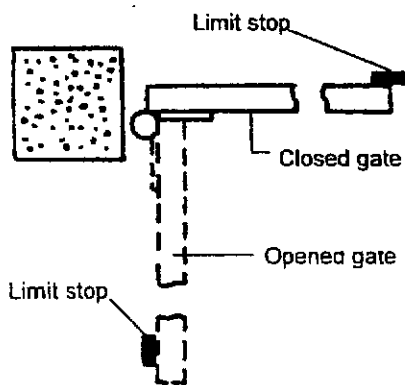

Figure 4. Provide positive limit stops for the gate leaf
3. Provide limit stops for the gate leaves in the fully opened and fully closed positions (see Figure 4).